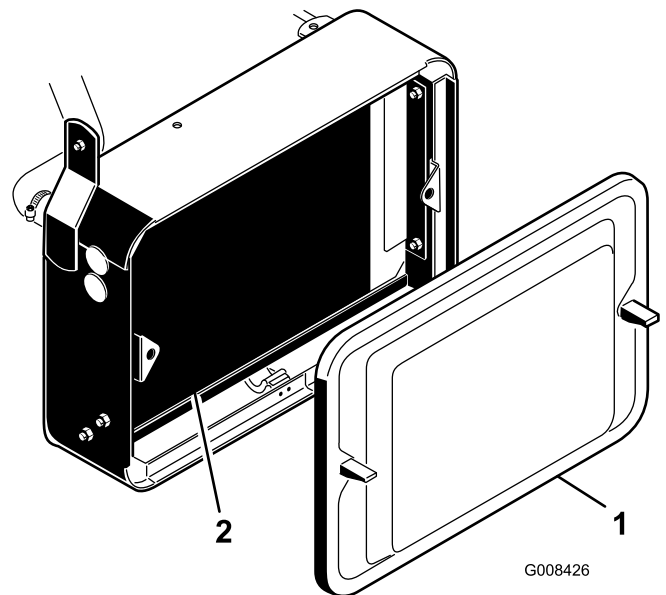

Figure 45
1. Remove the radiator screen (Figure 45).